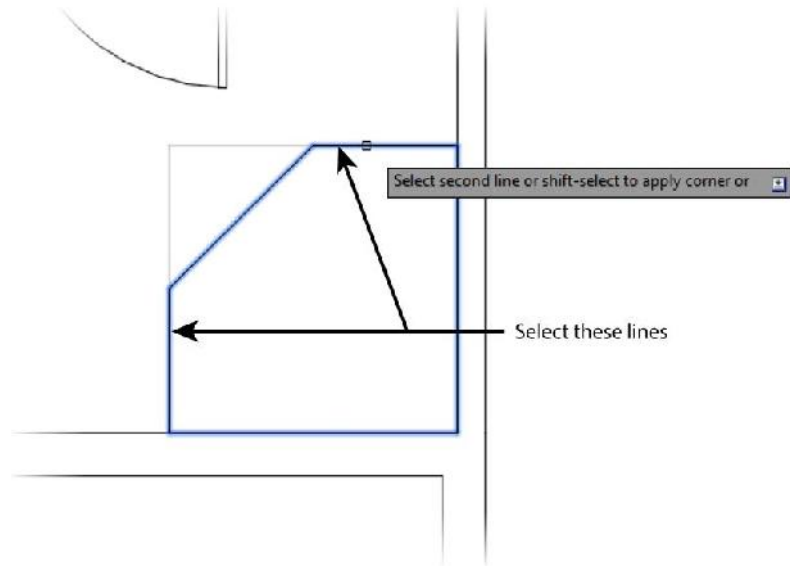

FIGURE 5.62: Chamfering the shower edges
9. Select the vertical shower edge as the first chamfer line and the horizontal shower edge as the second chamfer edge (see Figure 5.62).